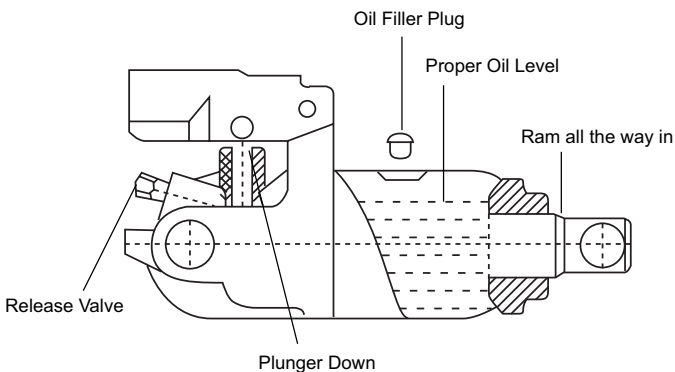

FIG. 3
- Remove the oil filler plug from the cylinder. (see Fig. 3)
- Position the jack on level ground and fully lower the saddle. (Ram will be all the way in). Remove oil filler plug located under cover plate (see Fig. 3).
- Check ram and pump plunger (see Fig. 3) every few months for any signs of rust or corrosion. Clean as needed by wiping with an oily cloth.